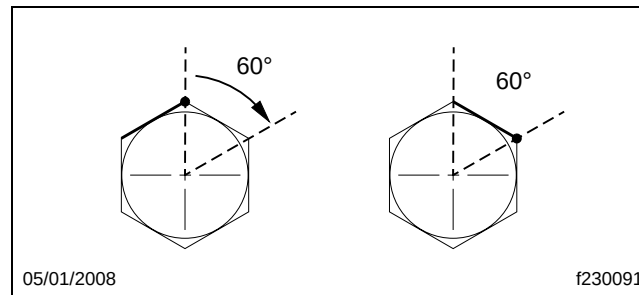

Fig. 7, Turning the Fitting One Flat (60 degrees)
31. Attach the lines to the plumbing adaptors on the steering gear, while ensuring that the lines will not touch the axle or each other once installed. Snug the connection with a wrench to ensure the fittings are seated, which is equivalent to approximately 2 lbf·ft (3 N·m). Then, using a backup wrench to keep the adaptors from turning, tighten the return and supply hoses by 1 flat of the tube nut (60 degrees). See **Fig. 7**.